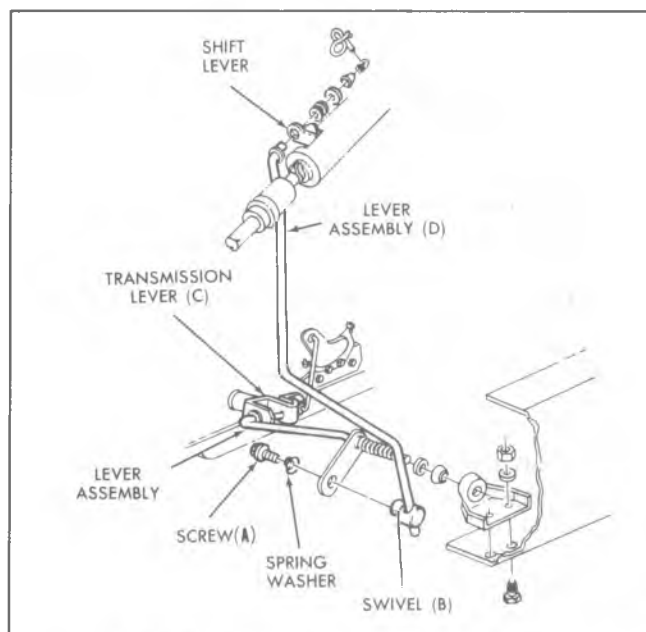

Fig. 7A-33—Column Shift Linkage - P Series
1. Install switch as shown in Figure 7A-34.